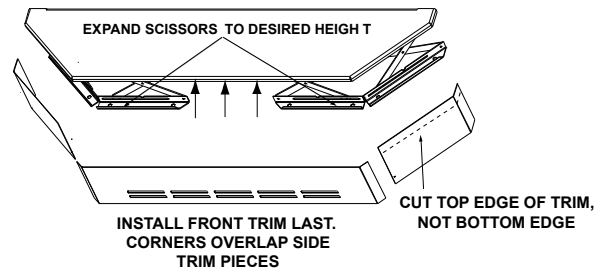

Figure 24.2
2. Expand scissors to desired height. Tighten screws to hold in place using Phillips head screwdriver (**Figure 24.2**).